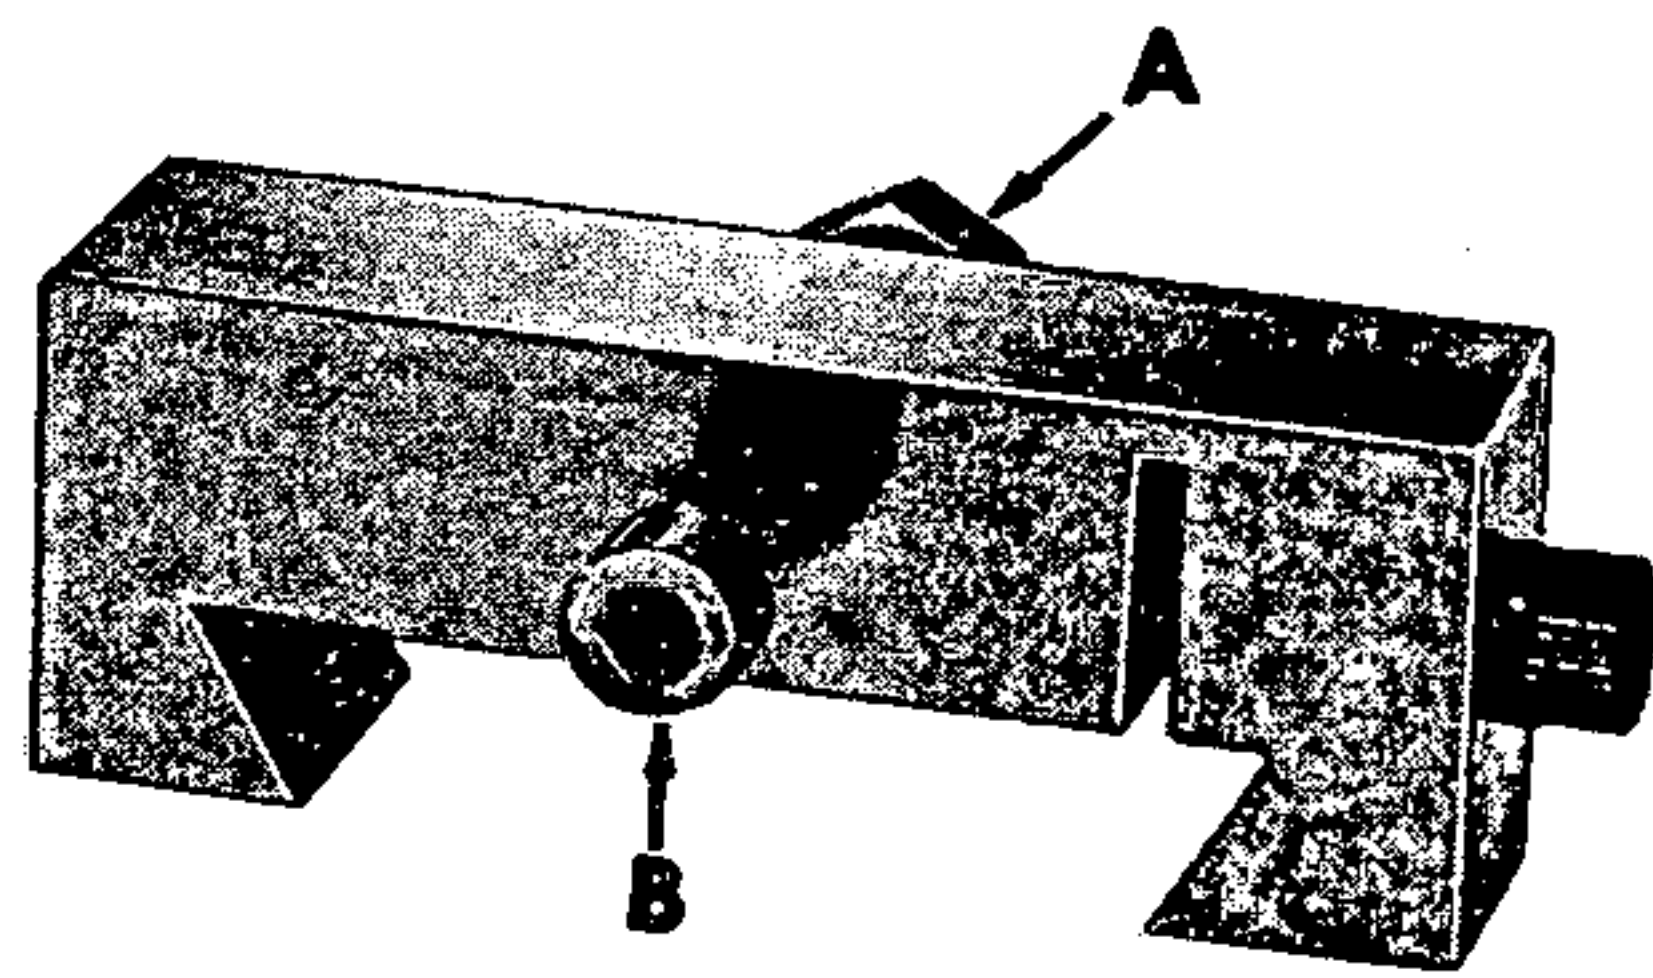

Figure 30
An adjustable screw (B, fig. 30) and lock nut (A) permit accurate setting. In mounting the cross slide stop on the cross slide dovetail, first remove the guard. Then clean the dovetail ways and clamp the stop in the approximate position required. Turn the adjusting screw into exact position and lock with the knurled nut. Place a small piece of paper or cardboard over the cross feed screw to keep it free from dirt and chips during the cutting operation.